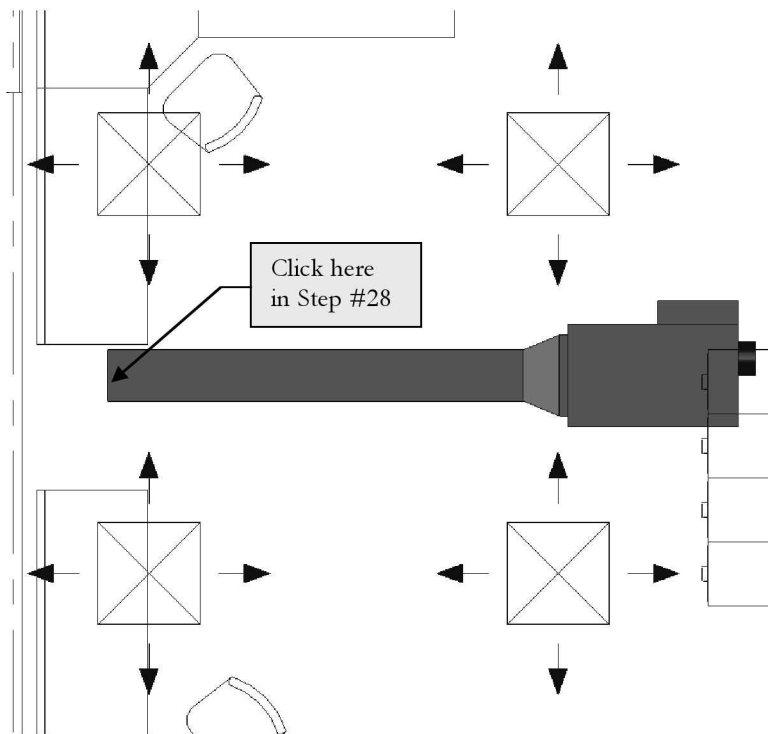

FIGURE 13-4.8 Drawing a duct off of the VAV
28. Click a point straight out from the connector, near the end of the diffuser (Figure 13-4.8).